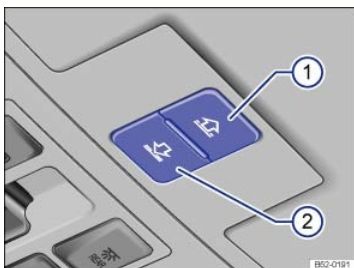

Fig. 103 In the roof console: Buttons for the power sunshade.
- Within about 5 seconds after the sunshade has stopped, press and hold button → *Fig. 103*  until the power sunshade closes completely.